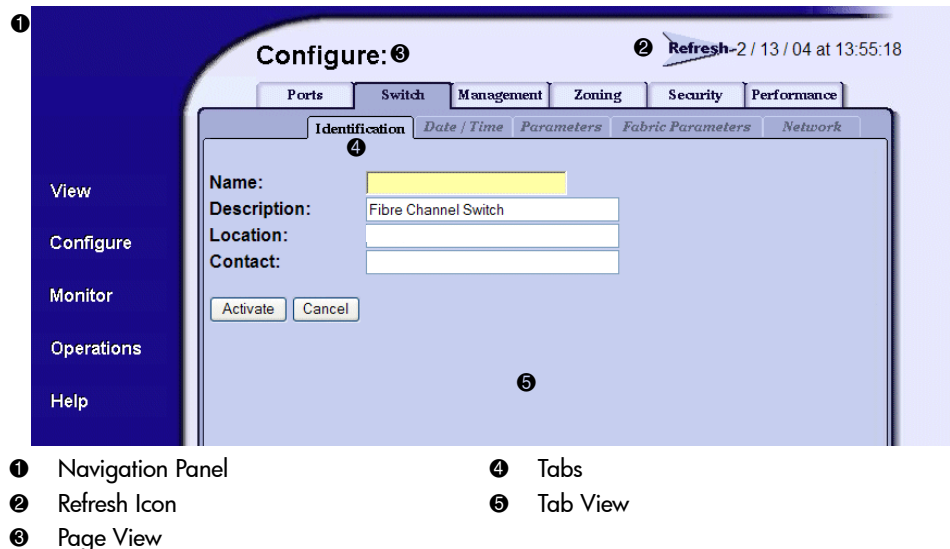

Figure 1: Example Embedded Web Server page for Edge Switch 2/24
Blue text: Figure 1	Cross-reference links
When the EWS interface opens, the default display is the **View** page. Figure 1 shows an example EWS view with labels for the various parts of the image. This example shows the **Configure > Switch > Identification** screen for the Edge Switch 2/24. For other products, the corresponding page looks very similar.
As shown in Figure 1, particular terms are used when describing the EWS interface:
- **Tab** — Describes a label for a viewing option on a page, such as the **Switch** and **Identification** tabs shown in Figure 1. Task selection tabs display at the top of the page. The task selection tabs allow users to perform director- or switch-specific tasks.